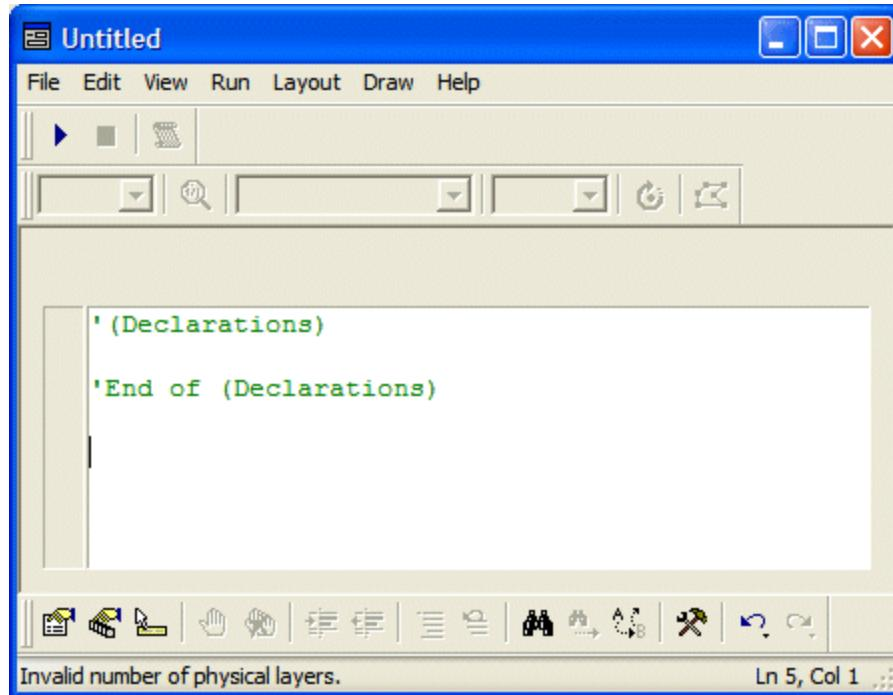

Figure 4-2. The IDE in its text editor mode.
- 3) Click the **OK** button to accept these settings and launch the IDE in its *text editor mode* (Figure 4-2). Observe the *(Declarations)* and *End of (Declarations)* comments in the main editing window. All of your script statements must be entered between these two comment lines.